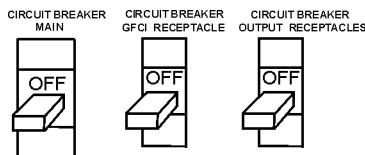

Figure 18. Main, GFCI and Load Circuit Breakers
1. Be sure to disconnect the electrical load and switch the **main**, **load** and **G.F.C.I.** circuit breakers (Figure 18) to the "OFF" position prior to starting the engine.
These receptacles will **ONLY** function when commercial power has been supplied to them (Figure 18). To apply commercial power to these receptacles, a power cord of adequate size will be required.